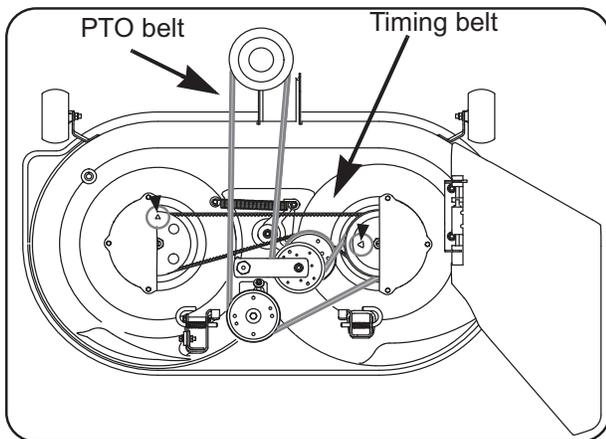

Figure 8.8
- For a 42" timed "R" deck, See Figure 8.8.